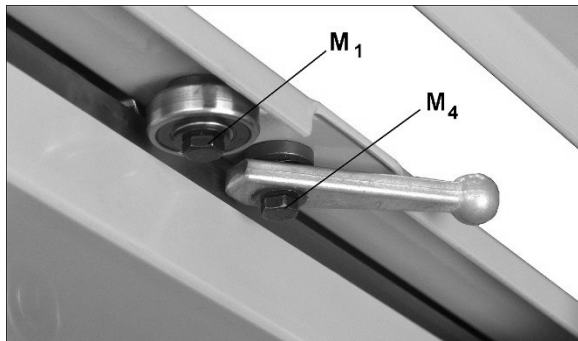
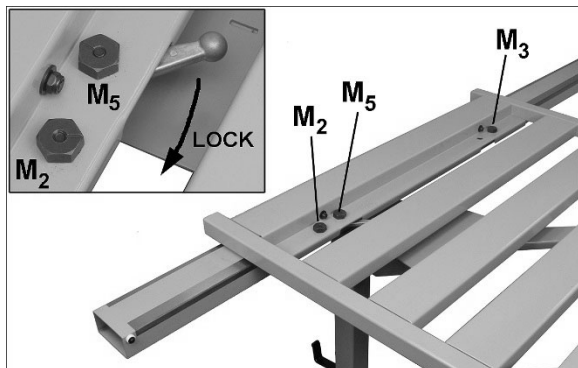

Figure 7-12
Figure 7-13
1. To correct lateral play, loosen bearing screw (M_1 , Figure 7-12), and turn eccentric nut (M_2 , Figure 7-13) until bearing slightly contacts outer rail. Do not adjust bearing too tightly against rail. Tighten screw (M_1).
3. Move table lock handle (inset, Figure 7-13) to locking position. If handle movement is too tight or too loose, loosen screw (M_4) and adjust eccentric nut (M_5) using same method, then retighten screw.